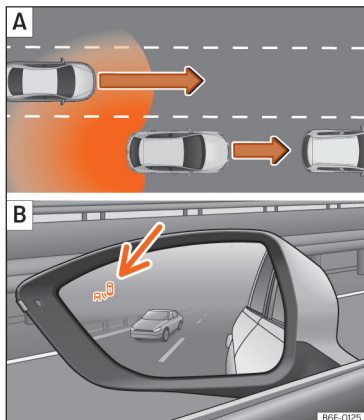
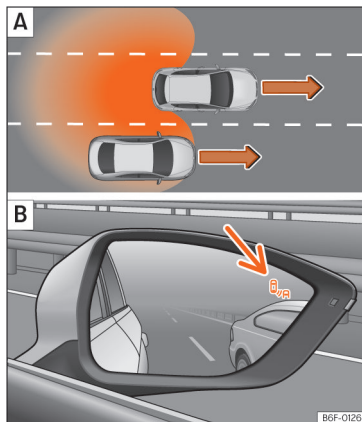

Fig. 116 Schematic diagram: **A**) Overtaking with traffic behind the vehicle. **B**) Side Assist indication on the left hand side.
Fig. 117 Schematic diagram: **A**) Overtaking in the central lane and then joining the right lane. **B**) Side Assist indication on the right hand side.
In the following situations, an indication will be displayed in the control lamp >>> **Fig. 116 B** (arrow) or >>> **Fig. 117 B** (arrow):
- When being overtaken by another vehicle >>> **Fig. 116 A**.
- When passing another vehicle >>> **Fig. 117 A** with a speed differential of approx. 10 km/h (6 mph). If the vehicle is passing at a considerably higher speed, no indication will be displayed.